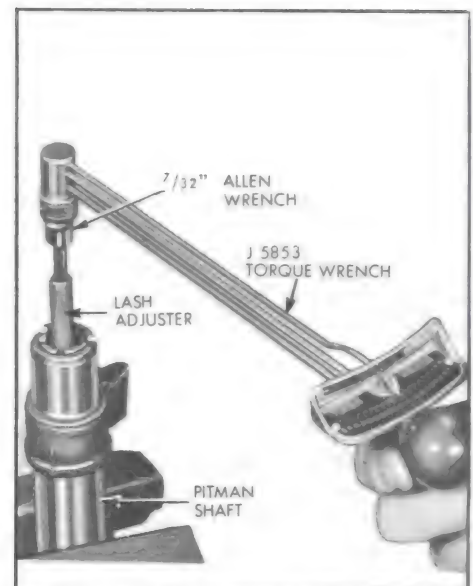

Figure 8-49—Checking Torque on Lash Adjuster
3. Check the torque on the lash adjuster. See Figure 8-49. If torque exceeds 15 inch pounds, pitman shaft assembly should be replaced.